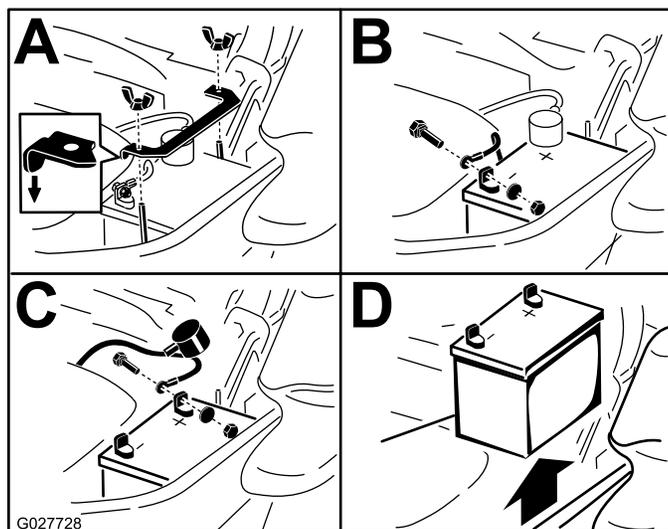

Figure 65
3. Remove the battery as shown in Figure 65.
**Note:** Position the battery in the tray with the terminal posts opposite from the hydraulic tank (Figure 65).